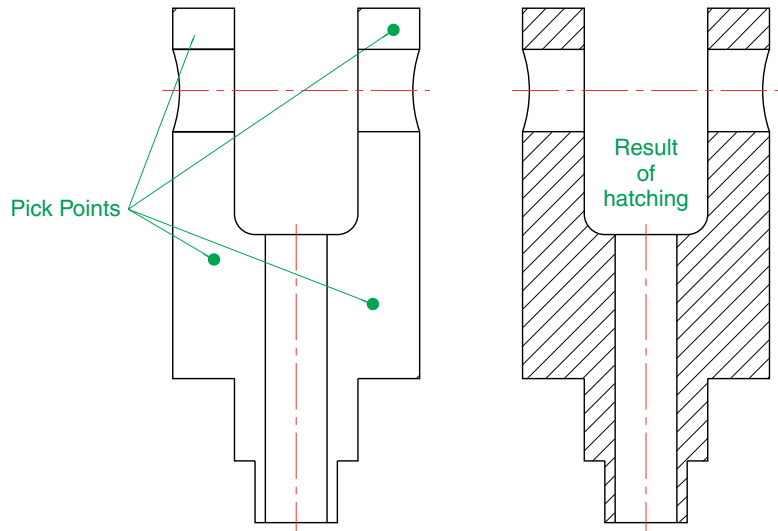

Fig. 7.14 The result of hatching
4. In the front view *pick* points as shown in the left-hand drawing of Fig. 7.14. The dialog reappears. *Click* the **Preview** button of the dialog and in the sectional view which reappears, check whether the hatching is satisfactory. In this example it may well be that the **Scale** figure in the dialog needs to be *entered* as **2** in place of the default **1**. Change the figure and **Preview** again. If satisfied *click* the **OK** button of the dialog.